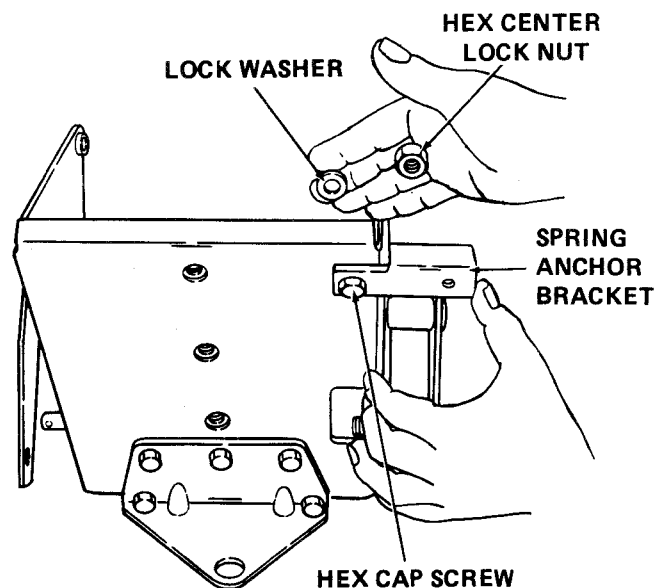

Figure B-9
- d. Assemble spring anchor bracket (10) to 3-point hitch plate assembly with hex cap screw (H), lock washer (I) and hex center lock nut (J). Refer to Figure B-9